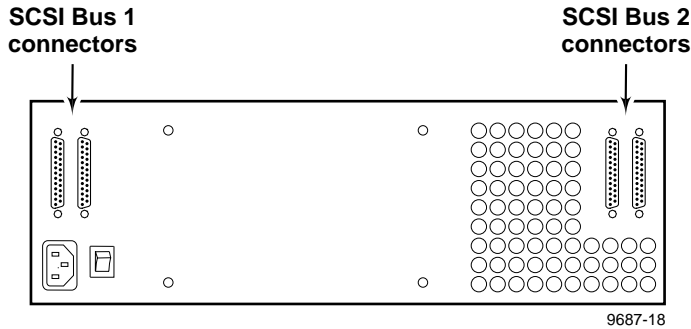
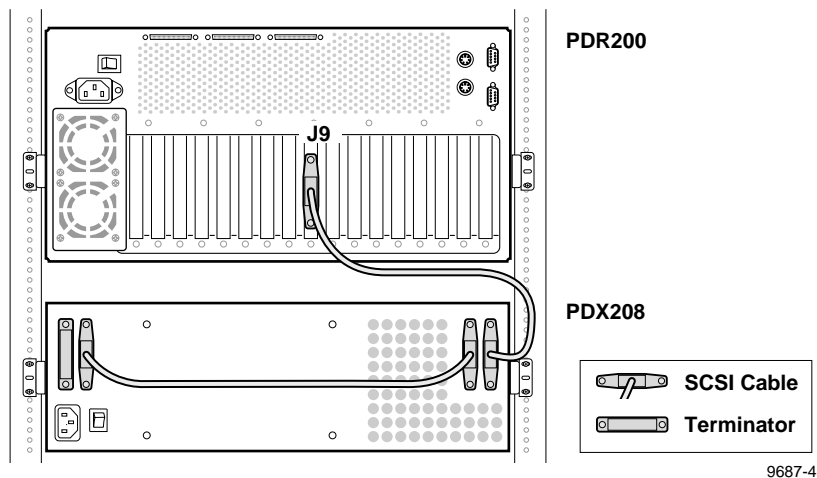
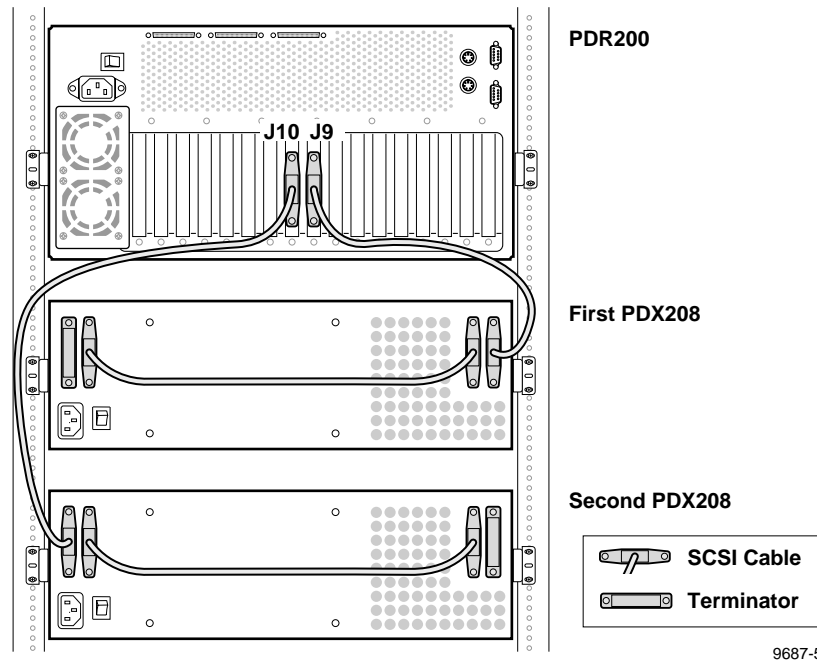

Figure 2-6. PDX 208 Cable Connections
Figure 2-8. Example of PRX208 Cable Connections to a 2-channel Profile
Figure 2-9. Two PRX208s Connections to a 4-channel Profile
All cables connect to the PDX208 SCSI Bus 1 and SCSI Bus 2 connectors on the rear panel as shown in Figure 2-6.
To connect one PDX208 to one 4-channel PDR200, refer to Figures 2-6 and 2-7 and:
Figure 2-8 shows a PDX208 connection to a 2-channel Profile (i.e., without the Slave Disk Recorder board). If connecting to a PDR 100 Profile, see the configuration stickers below the rear panel slots for the location of the Disk Recorder board. To connect a PDX208 to a 2-channel Profile, refer to Figure 2-6 and Figure 2-8 and:
2. Connect another SCSI cable from the second SCSI Bus 2 connector on the PDX208 to one of the SCSI Bus 1 connectors on the PDX208 as shown in Figure 2-8.
The connection shown in Figure 2-8 provides eight 9GB disk drives to the SCSI A bus of the 2-channel Profile.
Figure 2-9 shows two PDX208s connected to a 4-channel Profile. If connecting to a PDR 100 Profile, see the configuration stickers below the rear panel slots for the locations of the Disk Recorder boards. To connect two PDX208s to a 4-channel Profile, refer to Figure 2-6 and Figure 2-9 and:
The connection shown in Figure 2-9 provides eight 9GB disk drives to the SCSI A bus and eight 9GB disk drives to the SCSI C bus on the 4-channel PDR200 Profile (or the SCSI B bus on the 4-channel PDR 100 Profile).